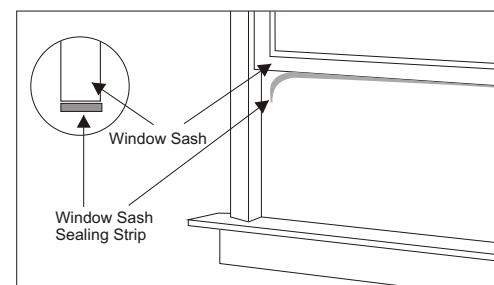

Fig. 9
D. Cut the **seal strip** to fit the underside of the bottom **window sash**. Remove the peel-off backing on the seal and attach it to this sash. See (*Fig. 9*).